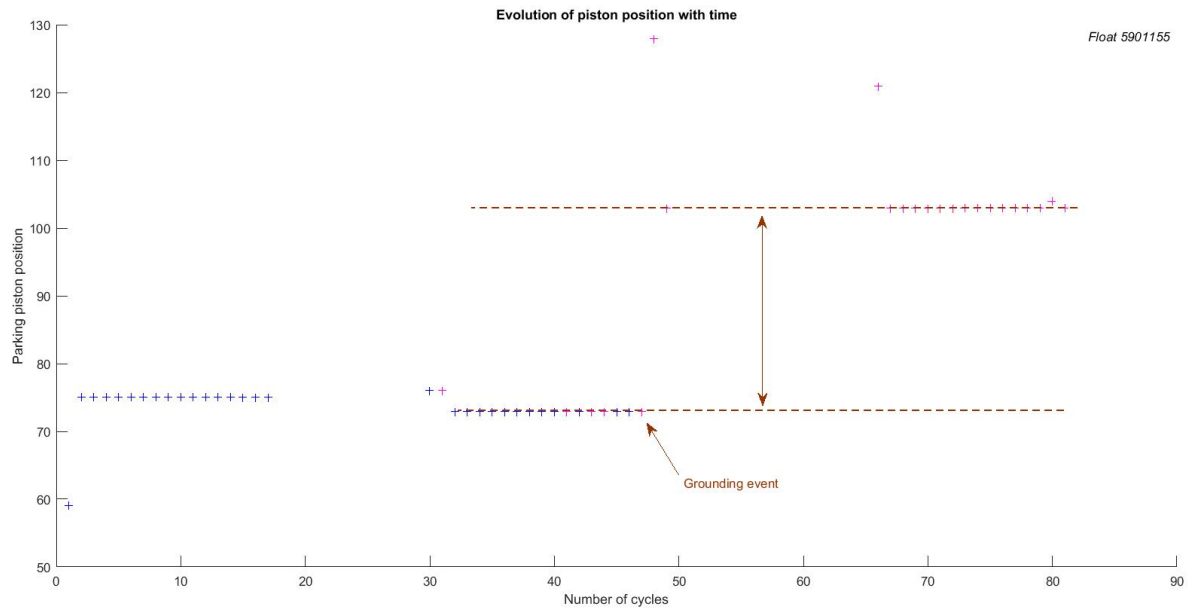

Figure 13: **Increase of weight:** typical evolution of piston position after a grounding event.
- **Change of weight:** as shown on figure 13, after a grounding event, there is a gap between two cycles: the weight has changed. Generally, the difference of weight is too important, and even as its maximum piston position the float doesn't manage to reach the surface.